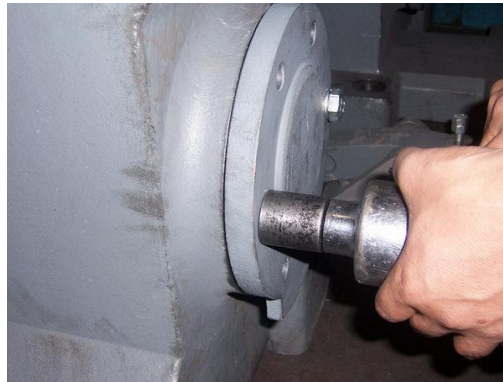

Figure 46 Worm Shaft back cover
18. Install the worm shaft back cover assembly and some shims into the corresponding hole and screw two bolts (M16x50) and washer 16 opposite each other but do not tighten. See Figure 46.